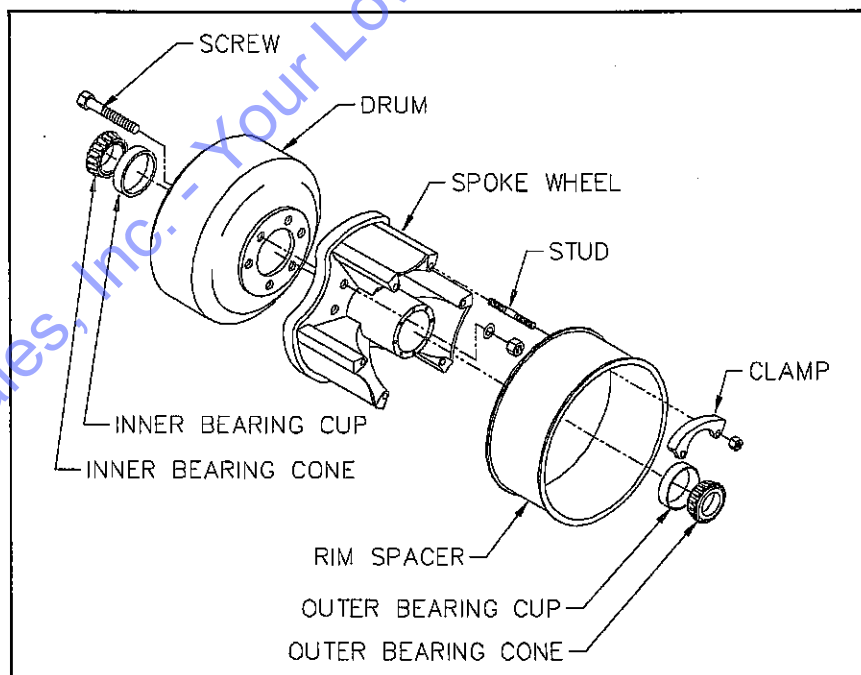
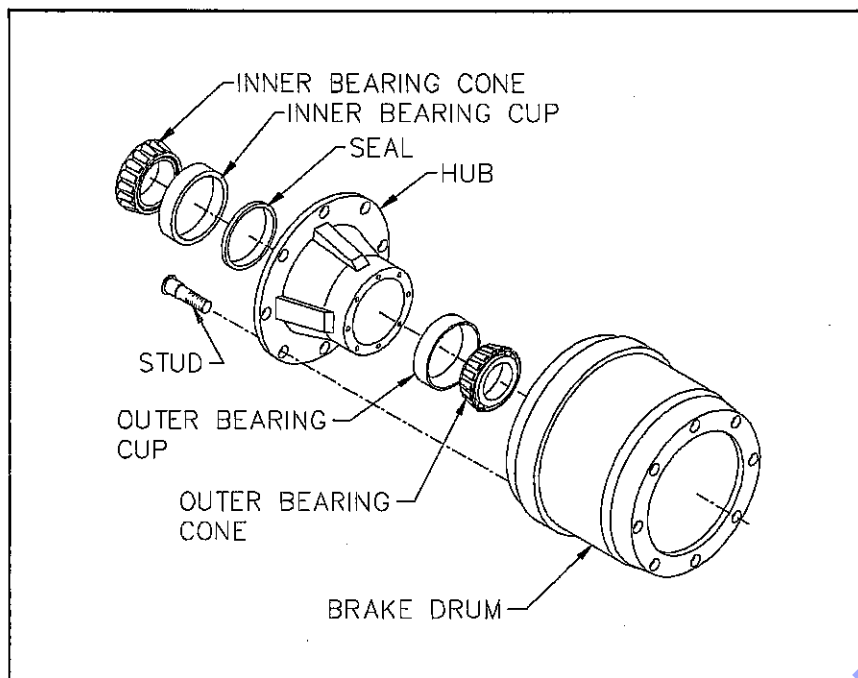
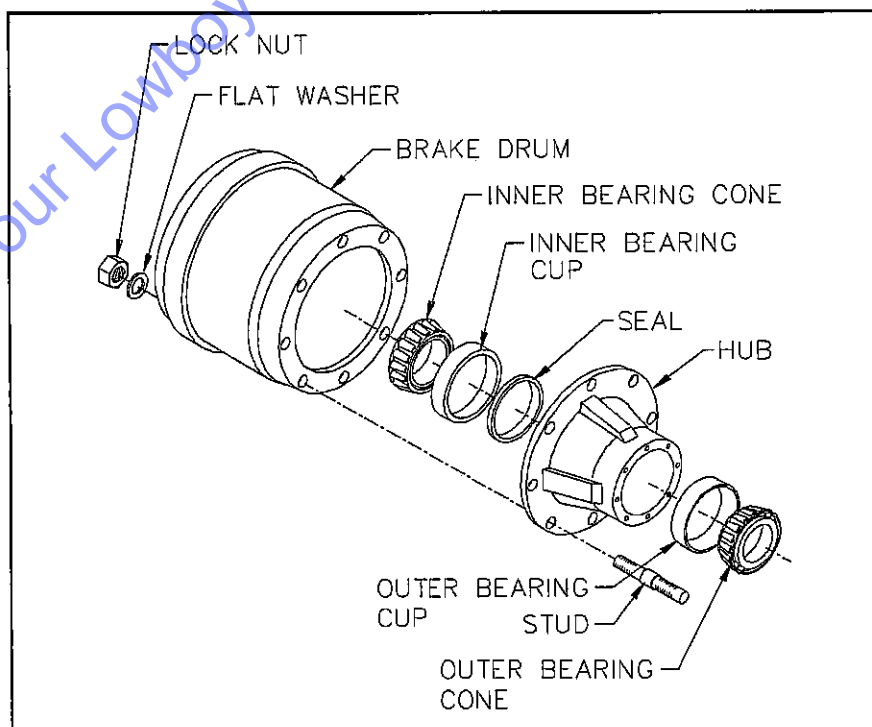

Figure 4-13 Three Spoke Wheel and Drum
Figure 4-14 Outboard Mount Hub and Drum
Figure 4-15 Inboard Mount Hub and Drum
4-10.4 Replace the hub and drum as follows (see Figure 4-14, 4-15 and 4-13):
- a. For outboard mount hub and drum remove the brake drum (see Figure 4-14). It may be necessary to release the slack adjuster. For inboard mount (see Figure 4-15) and spoke wheel (see Figure 4-13) remove drum after hub.
m. If studs are marked "R" or "L", right hand (R) hubs should be installed on the curbside of the vehicle, left hand (L) hubs should be installed on the driver side.
s. For Outboard Mounted Brake Drum (see **Figure 4-14**) place the drum over the hub and brake shoes being careful not to damage the threads on the studs. Make sure the drum seats flat against the hub flange and mates properly with the hub pilot. There should be no interference between the brake drum pilot chamfer and the corner radius on the hub. If interference exists, the hub will not be able to function properly.